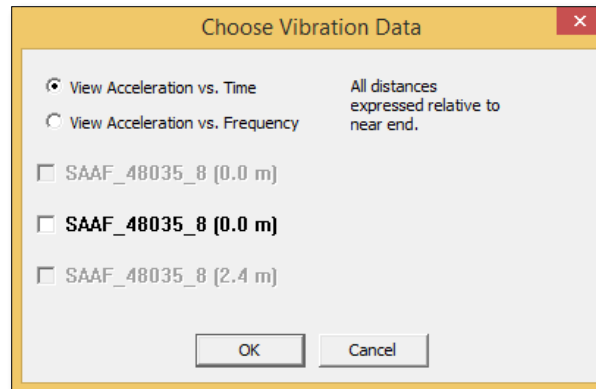

Figure 6.96: Select what type of vibration data and which part(s) of the SAA to view for vibration monitoring.
3. Select which part(s) of the SAA the vibration data is for, as shown in **Figure 6.96**.